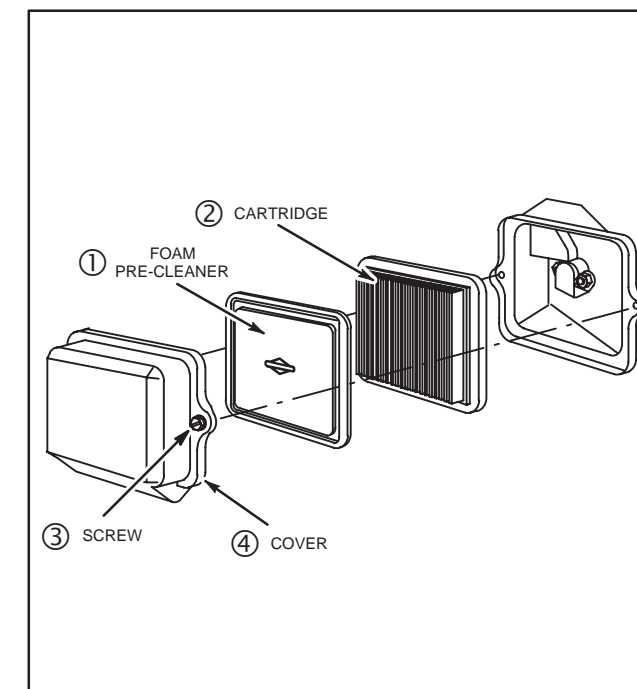

Fig. 3
- Remove one (1) or two (2) knobs or wing nuts (according to style) and air cleaner cover.
- Remove both old pre-cleaner and cartridge from engine and discard properly. Do not attempt to clean old cartridge with petroleum solvents or pressurized air, Fig. 3 or 4.